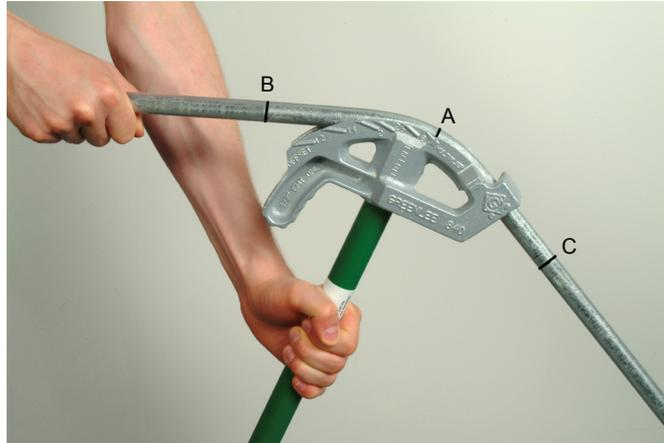

Figure 43. Bend the conduit until you reach a 45° angle.
- Bend the conduit at this location until you reach a 45° angle as shown in Figure 43.